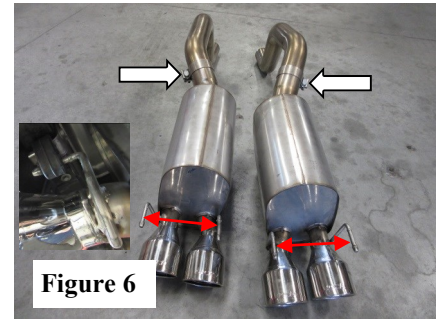

Figure 6
4. Place a clamp over each expanded end of the **X-pipe Assembly** and install both **R/H** and **L/H Intermediate Pipe Assemblies** to **X-pipe Assembly**. (SEE FIG. 6) **DO NOT TIGHTEN HARDWARE.**